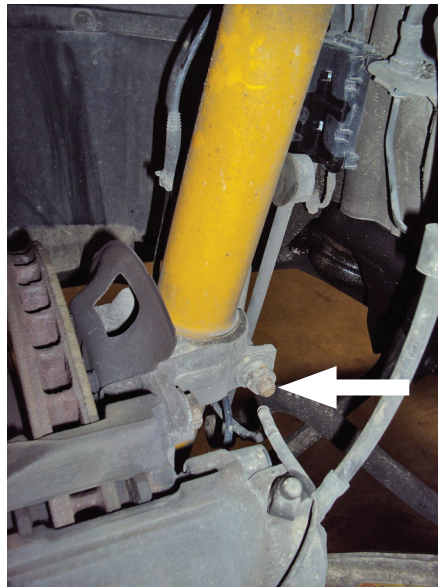

fig. 6
3. Remove the pinch bolt from the spindle. Then remove the second bolt holding the stabilizer bar bracket to the spindle. (figs. 6, 7 & 8)